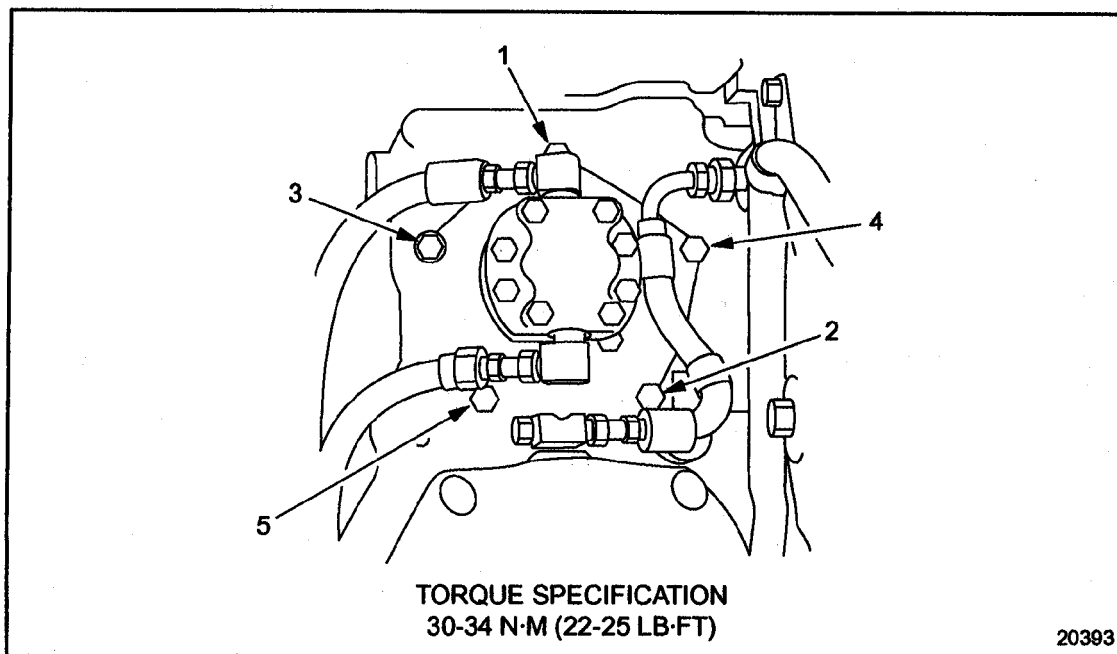

Figure 2-57 Fuel Pump Drive Assembly Torque Sequence
5. Install the fuel drive bolts and torque to 30-34 N·m (22-25 lb·ft) using the torque pattern shown. See Figure 2-57.